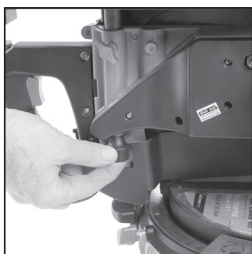

FIG. 18
- Turn the height adjustment screw (**Fig. 18**) clockwise or counter-clockwise until the saw blade protrudes through the table by the required amount.